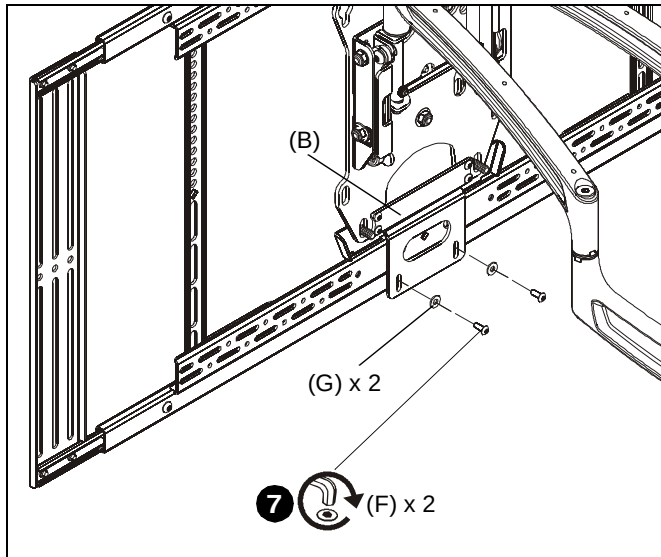

Figure 9
6. Use two #10-24 x 1/2" button head cap screws (F) and two #10 washers (G) to connect lower horizontal bracket (A) to either attachment bracket (B), TA350 bracket (if also using center channel) or other accessory bracket. See corresponding installation instructions for details if another bracket is being installed. (See Figure 9)